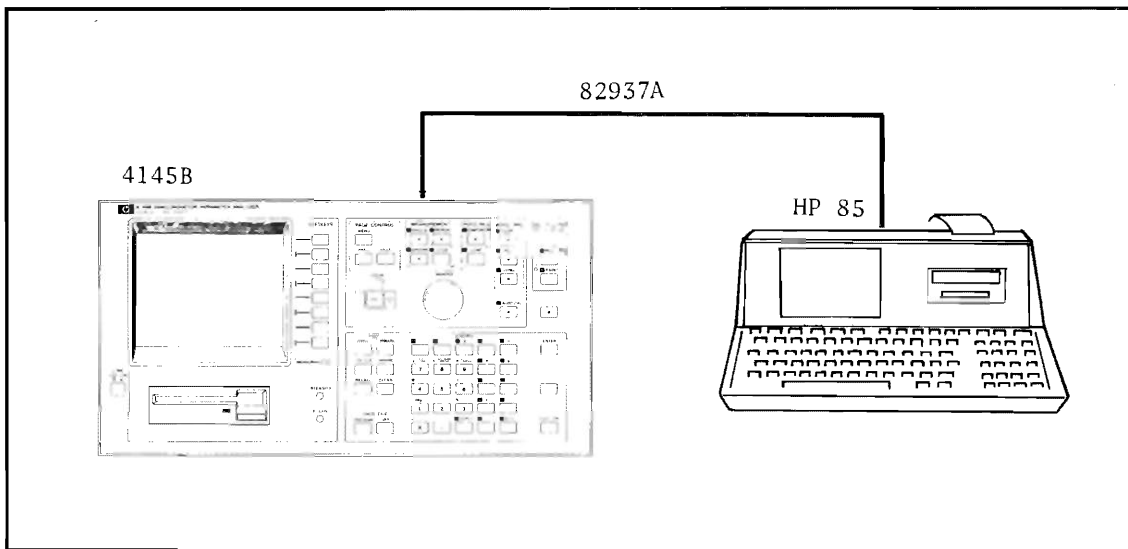

Figure 4-16. HP-IB Interface Test Setup.
2. Using the 82937A HP-IB Interface, interconnect the HP85 and the 4145B as shown in Figure 4-16.
- bits 1 - 5 : 10101 (21)